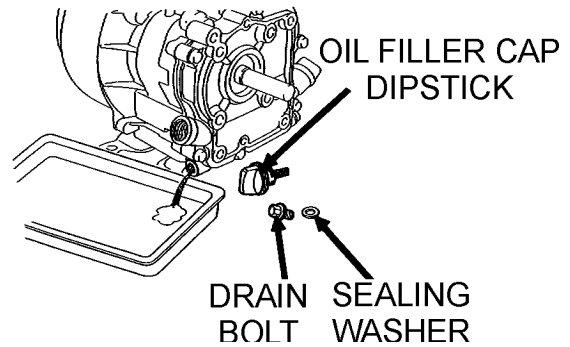

Figure 24. Draining Engine Oil
1. Drain the engine oil when the oil is warm as shown in Figure 24.